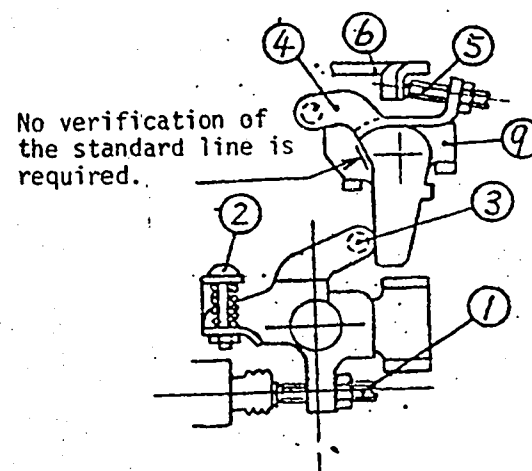

Fig 1
2) Setting intermediate lever position (refer to figs 1 and 2.)
3) Adjustment of the W-CSD lever (refer to Figs 1 and 2.)